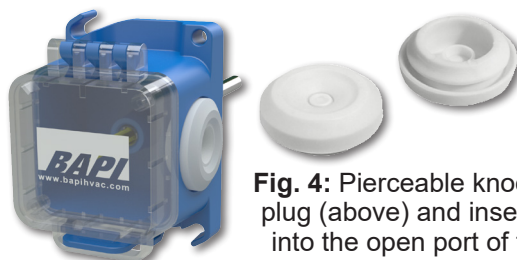

Fig. 4: Pierceable knockout plug (above) and inserted into the open port of the BAPI-Box Crossover.
5. A pierceable knockout plug is available for the open port in the BAPI-Box Crossover enclosure (see Fig. 4). The plug increases the enclosure rating from IP10 to IP44.
Note: Units ordered with Voltage Output can be switched to 4 to 20mA output with the DIP switch setting shown at right. The middle flying lead or middle terminal would not be used in that case and the unit would be wired similar to Figs 4 and 5 above.